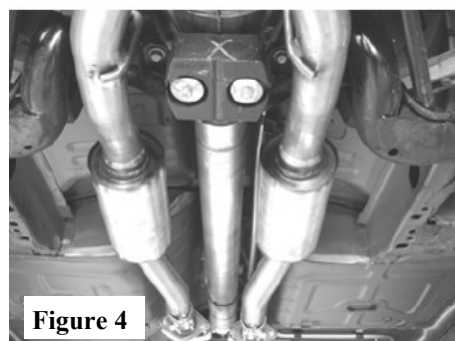

Figure 4
3. into position installing the hangers into the rubber brackets. DO NOT tighten the clamps. (See Fig.4)